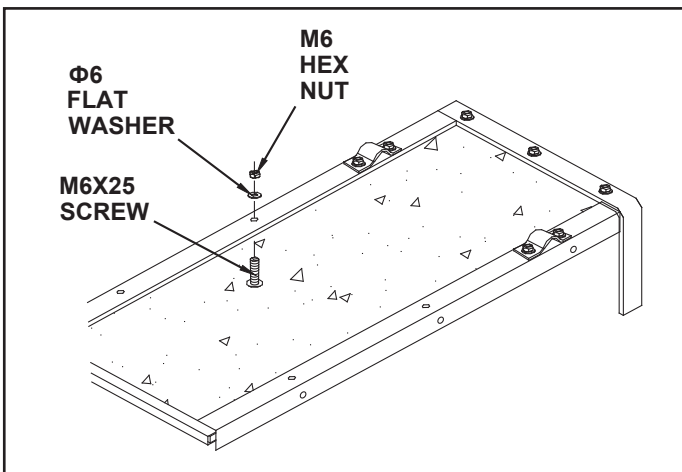

FIGURE 4
- Secure both side angle assemblies to the bottom panel using four M6 x 25 screws, flat washers and hex nuts. Make only finger tight until all four screws are in place, then **tighten securely**. See figure 4.